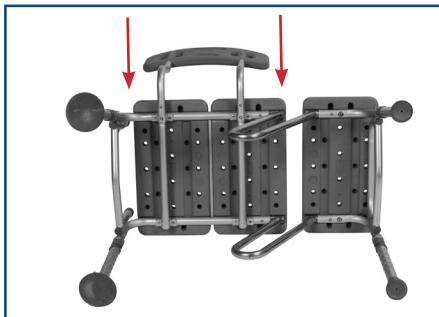

figure 6
8. Insert backrest into base by depressing push pins and sliding support tubes through both receptacles. Note: Backrest must go through both sets of receptacles to become secure. (Figure 6)